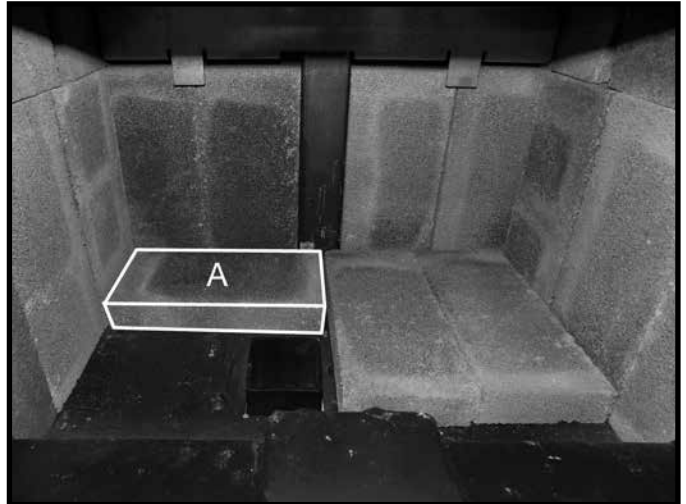

Figure 14. Third floor brick in place.
- Place a third "A" firebrick against the rear wall as shown in Figure 14. on page 13